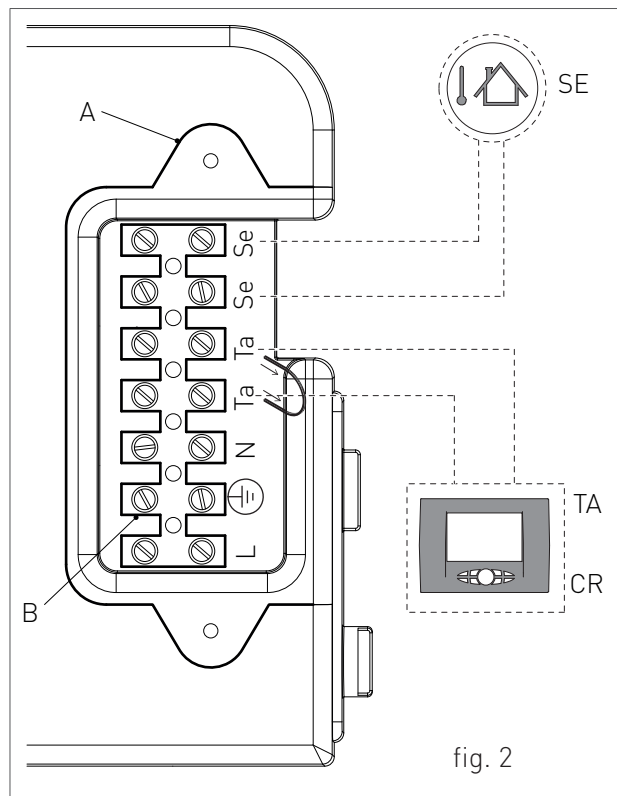

fig. 2
Assemble the condensate neutralisation box, fitted with granulate and active carbons for a treated power up to 350 kW (see fig.2). The device allows neutralising the condensate which is collected inside the boiler and/or in the fume discharge systems made of stainless steel, plastic, glass or ceramic.
- › remove the front casing of the boiler (see chapter ACCESSING THE BOILER); unscrew the screws and remove plate "A" (see fig. 2).
- › After removing the plate, connect the electrical cables to terminal "B" (see fig. 2):